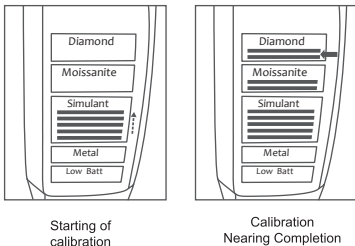

Fig. 1.14
7. During calibration, the Lights Simulant, Moissanite and Diamond Indicator lights will each gradually light up, accompanied by rhythmic beeping, with Diamond LED lights indicating the ending phase of the calibration, as shown in **Fig. 1.14**.